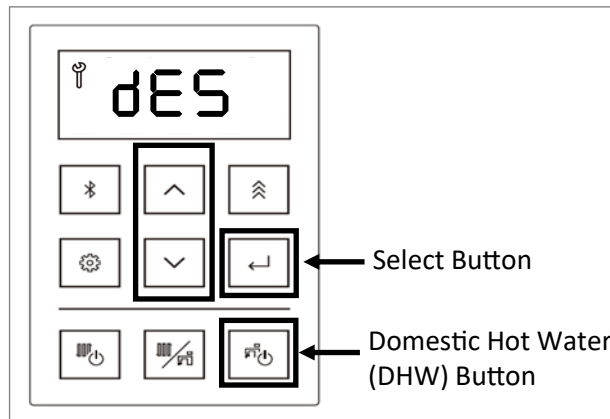

Figure 153
12. Press the up or down arrow button on the controller to select dES (descaling) (Figure 153).
13. Press the Select button to select the dES (Figure 153).
15. Press the Domestic Hot Water (DHW) button to start the count down (Figure 153).